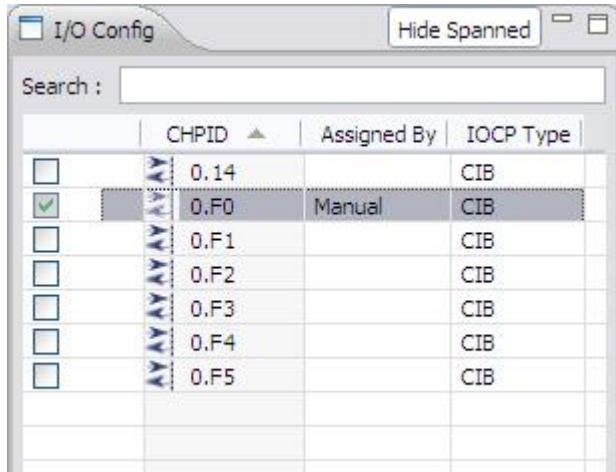

Figure 122. Results of clicking Hide Spanned
- 2) In the I/O Config pane, you can click **Hide Spanned** to hide the additional item or items. Figure 122 on page 96 shows the additional item hidden.